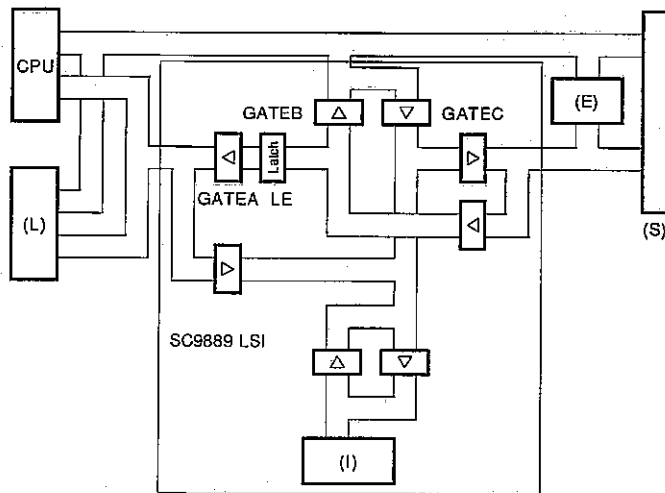

Fig. 4-4
The data control section controls buffers according to data transmission direction in each operation mode of CPU operation, DMA operation, and MASTER operation. Fig. 4-4 shows the data bus configuration of this unit. (L), (I), (E), and (S) in Fig. 4-4 show device locations of Local, Internal, External, and Slot respectively.